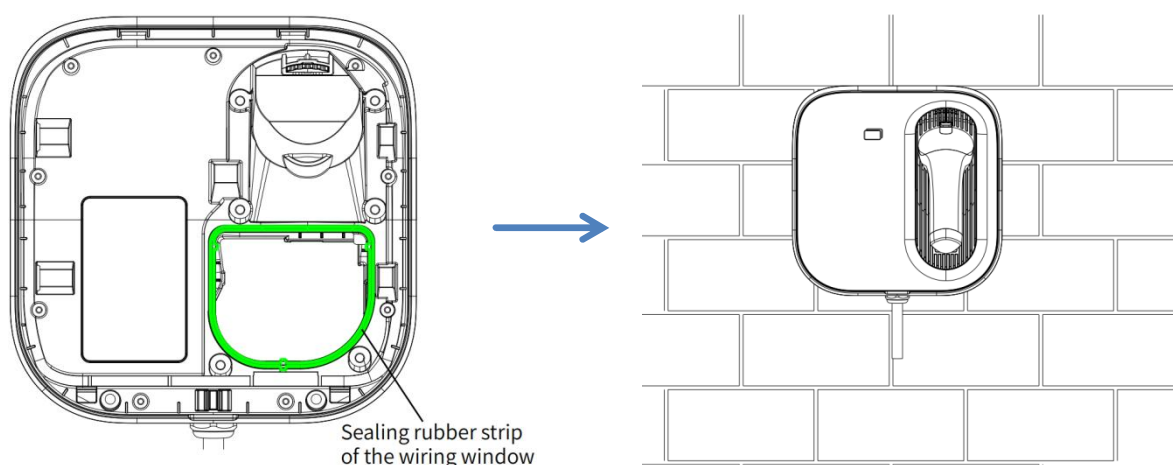

Figure 4-21 Complete the installation
(7) Check the sealing rubber strip of the wiring window is properly installed, after that reinstall the charging connector holder and tighten the 6 screws, reinstall the decorative cover, and insert the charging connector into the charging connector holder, as shown in Figure 4-21.